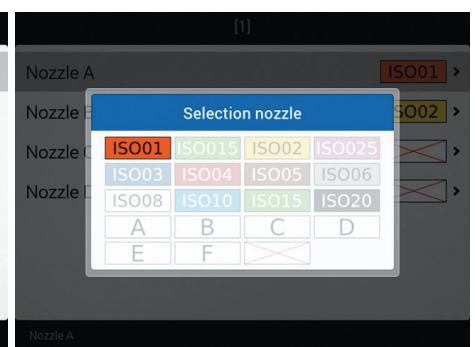

Fig. 34
- Select one of the suggested nozzles (Fig. 34): if a nozzle is NOT in use, disable it by selecting